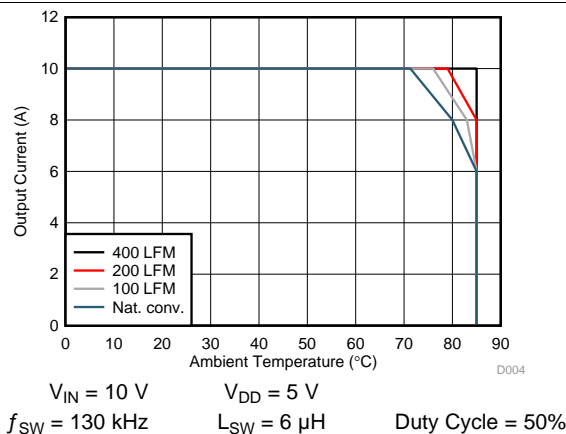
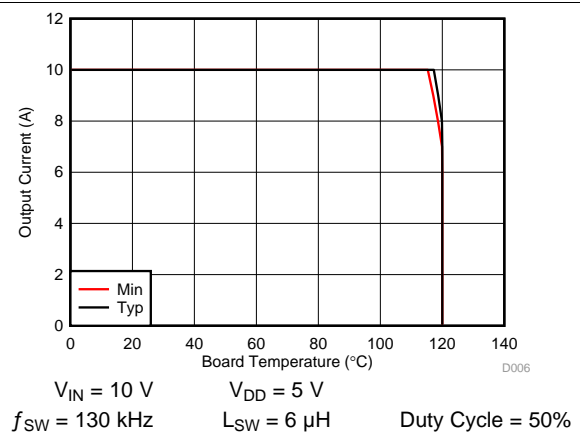

Figure 5. Safe Operating Area – PCB Horizontal Mount ⁽¹⁾
Figure 6. Typical Safe Operating Area
The SOA curves in the bq500101 datasheet give engineers guidance on the temperature boundaries within an operating system by incorporating the thermal resistance and system power loss. Figure 5 and Figure 6 outline the temperature and airflow conditions required for a given load current. The area under the curve dictates the safe operating area. All the curves are based on measurements made on a PCB design with dimensions of 4.0" (W) x 3.5" (L) x 0.062" (T) and 6 copper layers of 1-oz. copper thickness.